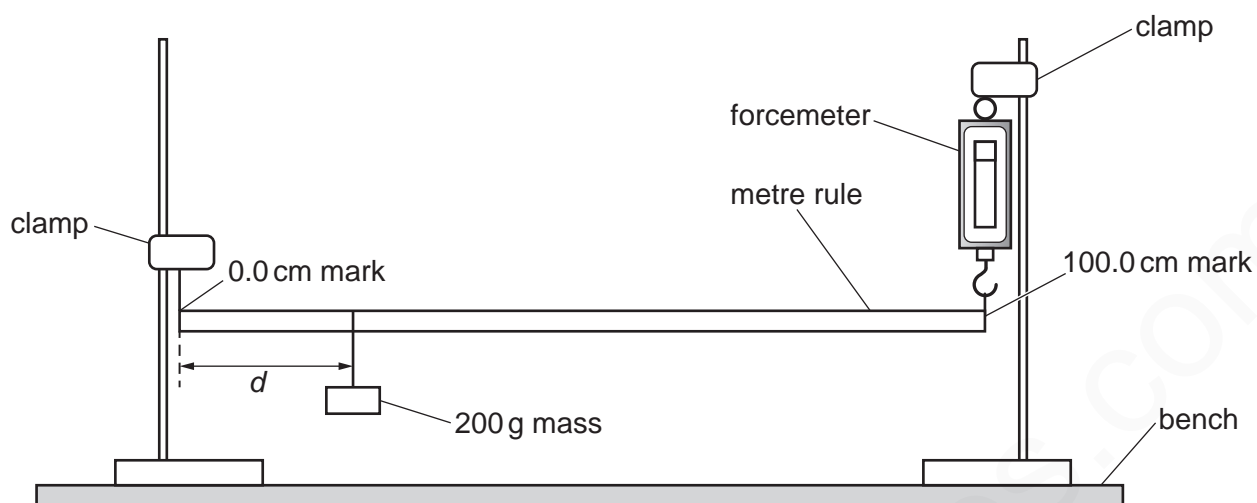

Fig. 3.1
- 3 Some students are determining the weight of a metre rule. They use the apparatus shown in Fig. 3.1.